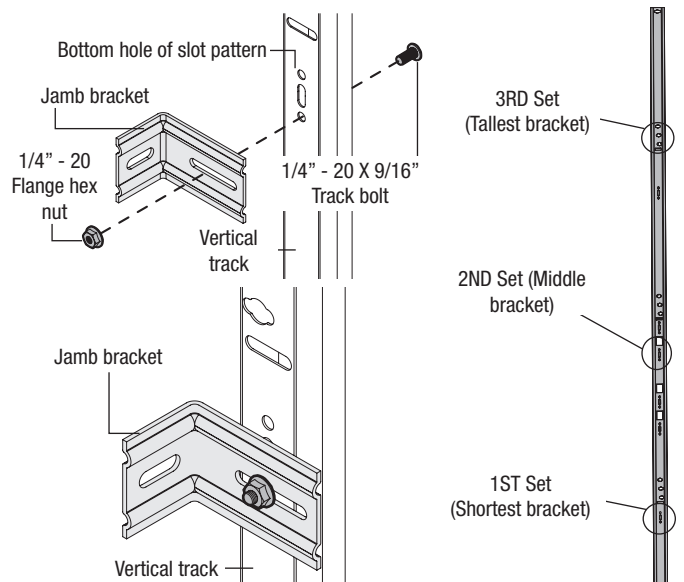

FIG. 1.2
To attach the jamb bracket(s), locate the slot pattern of the vertical track, as shown in **FIG. 1.2**.
Align slot in jamb bracket with the slot pattern in the vertical track. Secure jamb bracket using (1) 1/4" - 20 x 9/16" track bolt and 1/4" - 20 flange hex nut, as shown in **FIG. 1.2**.